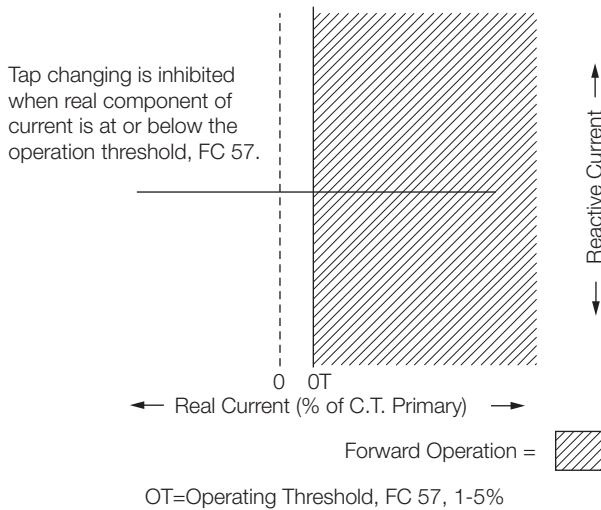

**Figure 6-4. Reverse idle metering.**
**METERING:** (Figure 6-4.) A threshold level of 1% (.002 A) of the full load CT secondary current of .200 A is used in setting the power direction. The metering will be forward until the current exceeds the 1% threshold in the reverse direction. At this time, the various parameters use the reverse settings and the Reverse Power indicator turns on. The control continues metering in reverse until the current exceeds the 1% threshold in the forward direction, and then the parameter scaling reverts back to normal and the Reverse Power indicator turns off.